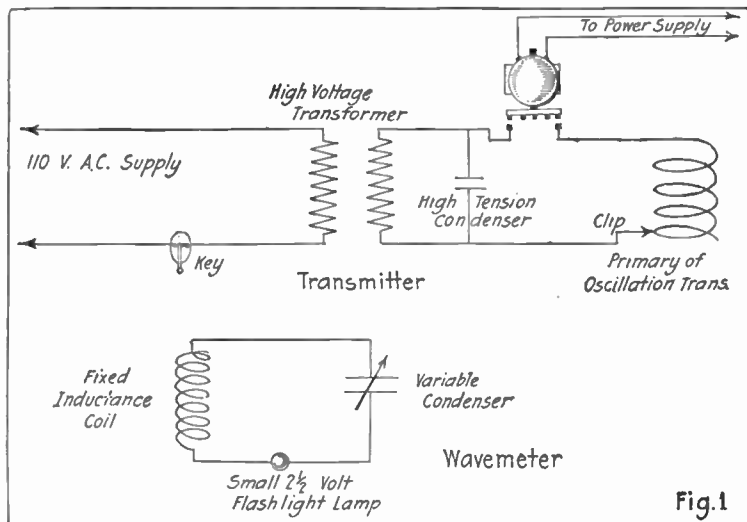

Fig.1
*Closed Oscillating Circuit.*—Disconnect aerial and ground from the secondary of the oscillation transformer and make coupling very loose so that no inductive effect takes place between primary and secondary windings. The upper part of Fig. 1 shows the connections of a standard transmitting set with secondary of oscillation transformer not shown, but disconnected from the closed oscillatory circuit as explained above.
The wavemeter is shown at the lower part of Fig 1, showing a small tungsten filament flashlight bulb connected in series with the condenser and inductance. This lamp will light to incandescence when the resonance point between the transmitter closed circuit in operation and the wavemeter circuit is reached. Care should be taken that the wavemeter inductance coil is not placed too near